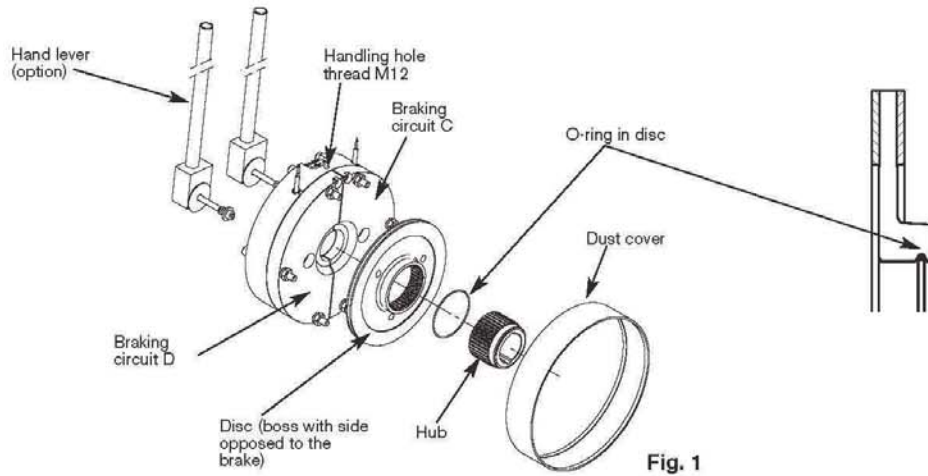

Fig. 1
When handling, use the handling holes intended for this purpose (see Fig. 1, thread M12)
- Put the O-ring into the disc (see Fig. 1).